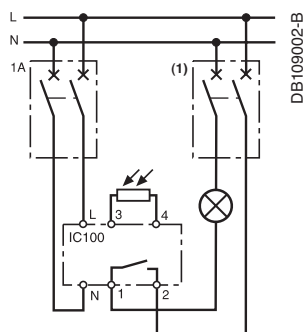

Abb. 1
- Strom ≤ 16 A, cos φ = 1 (Abb. 1)